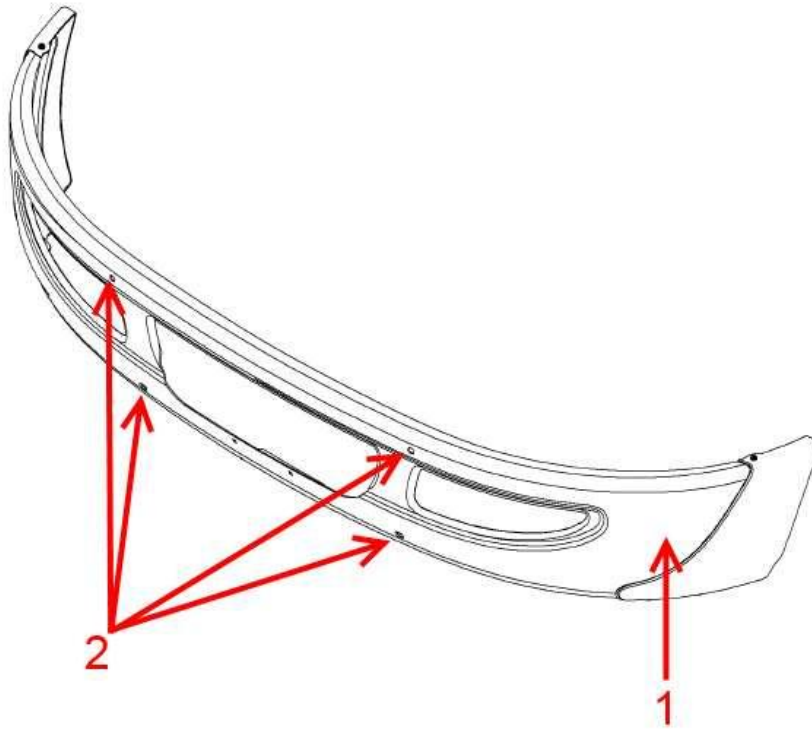

Figure 3: Front Bumper
4. Remove the four bolts from the front bumper (**Figure 3**, Item 2) and remove the bumper from the vehicle.